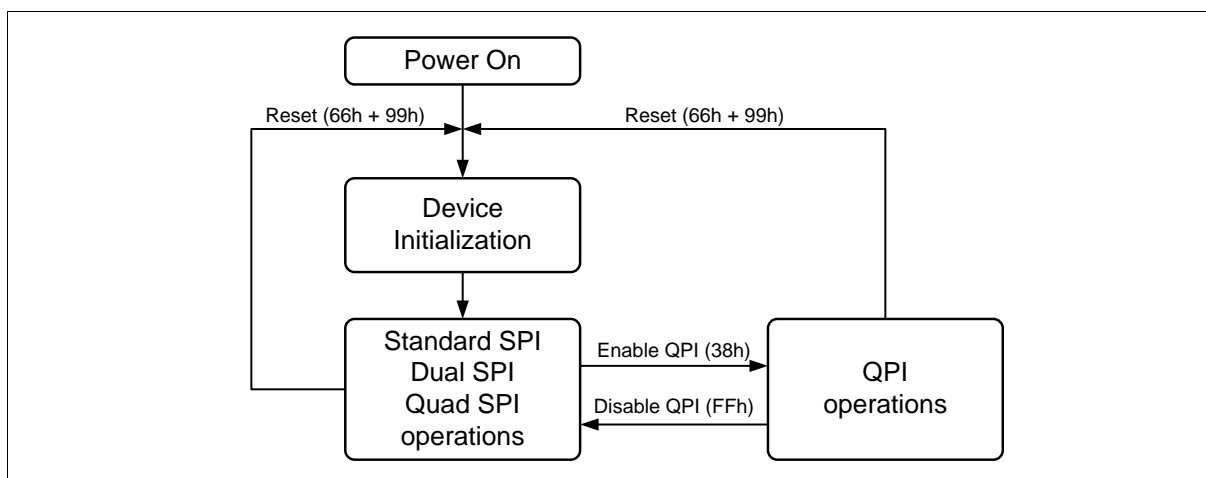

Figure 2 FM25W16 Serial Flash Memory Operation Diagram
The FM25W16 supports Quad Peripheral Interface (QPI) operations only when the device is switched from Standard/Dual/Quad SPI mode to QPI mode using the “Enable QPI (38h)” instruction. The typical SPI protocol requires that the byte-long instruction code being shifted into the device only via DI pin in eight serial clocks. The QPI mode utilizes all four DQ pins to input the instruction code, thus only two serial clocks are required. This can significantly reduce the SPI instruction overhead and improve system performance in an XIP environment. Standard/Dual/Quad SPI mode and QPI mode are exclusive. Only one mode can be active at any given time. “Enable QPI (38h)” and “Disable QPI (FFh)” instructions are used to switch between these two modes. Upon power-up or after a software reset using “Reset (99h)” instruction, the default state of the device is Standard/Dual/Quad SPI mode. To enable QPI mode, the non-volatile Quad Enable bit (QE) in Status Register-2 is required to be set. When using QPI instructions, the DI and DO pins become bidirectional  $DQ_0$  and  $DQ_1$ , and the WP# and HOLD# pins become  $DQ_2$  and  $DQ_3$  respectively. See Figure 2 for the device operation modes.